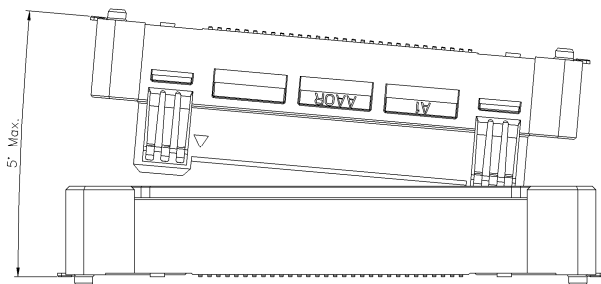
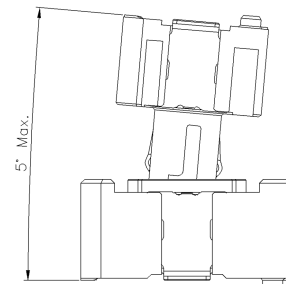

图 8/Fig8
图 9/Fig9
g. 图 8 及图 9 所示指导角度，插入前不可大于此角度（未锁定）；
Guide Angle as shown in figure 8 and figure 9, not greater than this Angle before insertion (not locked)